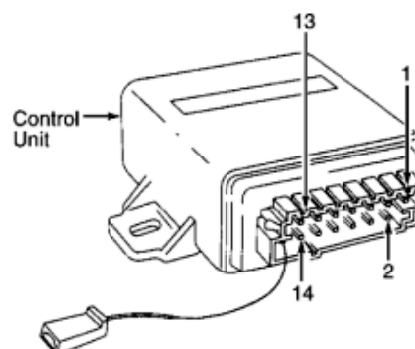

Fig. 4: Identifying Control Unit Terminals
1) Turn ignition on. Slide cruise control selector switch to ON position. Using a voltmeter, measure voltage between control unit terminal No. 4 and ground. See Fig. 4. Slide cruise control switch to RESUME position. Voltmeter should indicate battery voltage. With switch in other positions, voltmeter should indicate zero voltage.
1) Turn ignition on. Slide cruise control selector switch to ON position. Using a voltmeter, measure voltage between control unit terminal No. 6 and ground. See Fig. 4. Slide cruise control switch to RESUME position. Voltmeter should indicate battery voltage. With switch in other positions, voltmeter should indicate zero voltage.
2) Using an ohmmeter, check continuity between control unit terminal No. 7 and ground. See Fig. 4. Ohmmeter should indicate approximately zero ohms since terminal No. 7 and brakelight bulbs are connected to ground through brakelight bulbs.
1) Turn ignition off. Disconnect control unit connector. Using an ohmmeter, measure resistance between control unit terminal No. 2 and ground. See Fig. 4. Ensure resistances are to specification as transmission shift lever is moved. See NEUTRAL START SWITCH RESISTANCE SPECIFICATIONS table.
2) Most likely areas of fault when a Code 3-1-1 is obtained include signal from brakelight circuit (control unit terminals No. 7 and 10), neutral start switch (control unit terminal No. 2) and selector (control unit terminals No. 11, 6, 4 and 3). See Fig. 4.